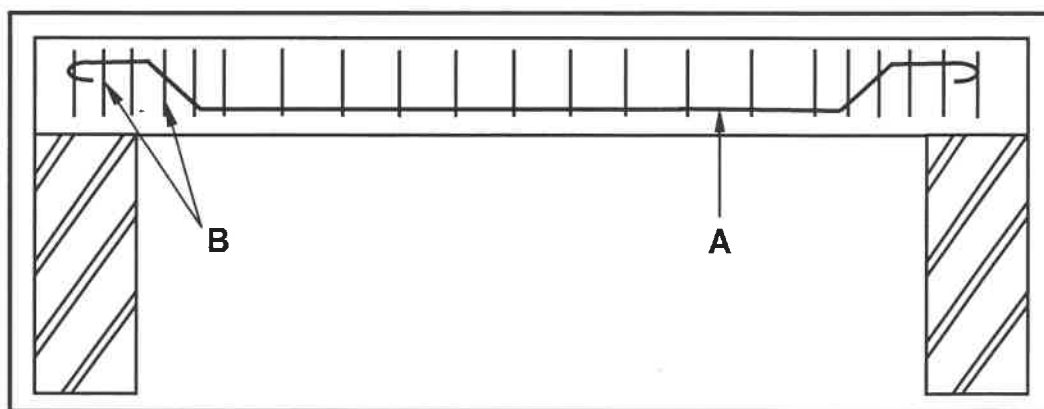

FIGURE 6.6
6.6 FIGURE 6.6 below shows an incomplete reinforced concrete beam.